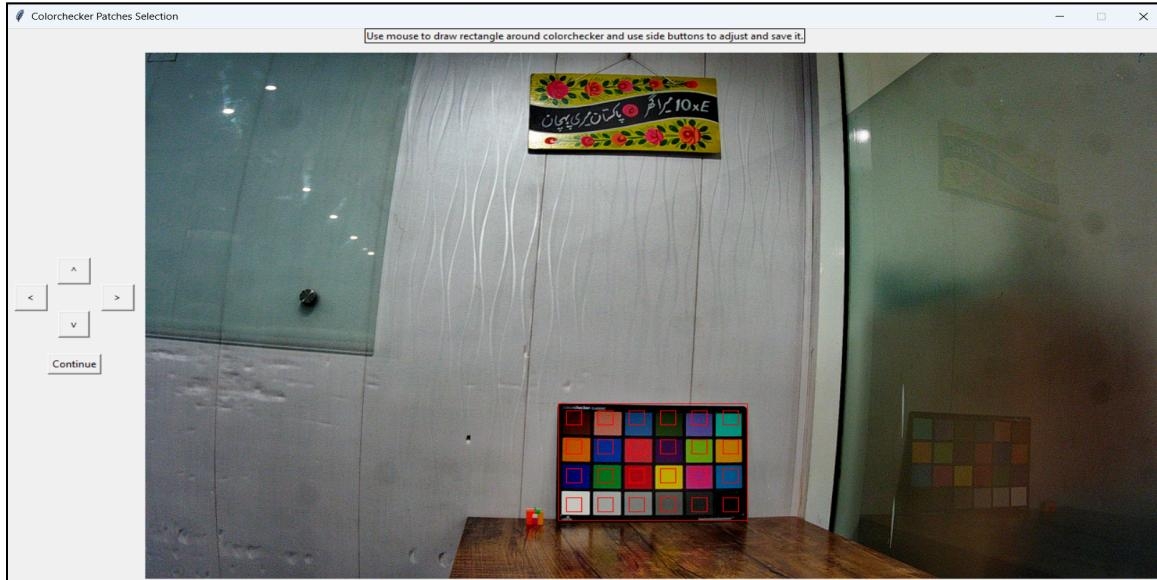

Figure 8: Drawing rectangle around ColorChecker by dragging mouse from top left to bottom right corners of the ColorChecker
- Use the mouse to draw a rectangle around the ColorChecker as shown in Figure 8.